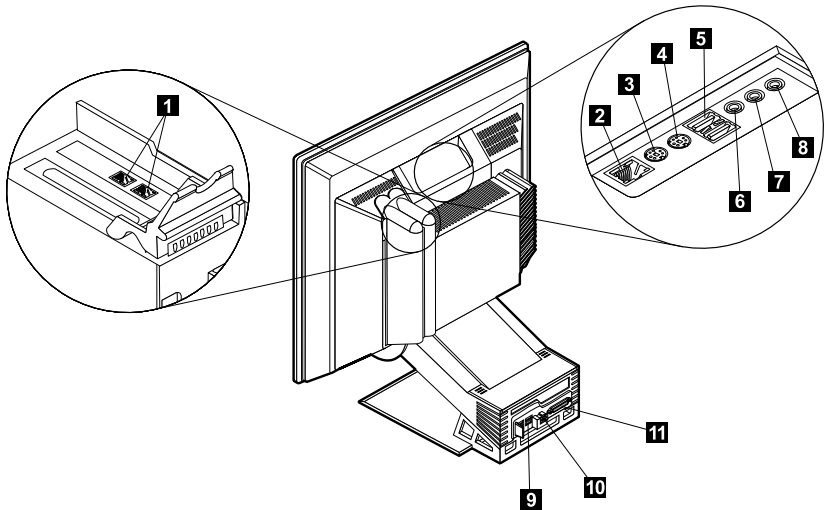

Figure 1. Connectors
- Connect the power adapter cord to the computer **10** (see Figure 1 on page 9) and to the other devices before plugging them into an electrical outlet.
There are six USB connectors on your computer (see Figure 1 on page 9): four at the rear **9** and two on the top side **5** of the monitor.